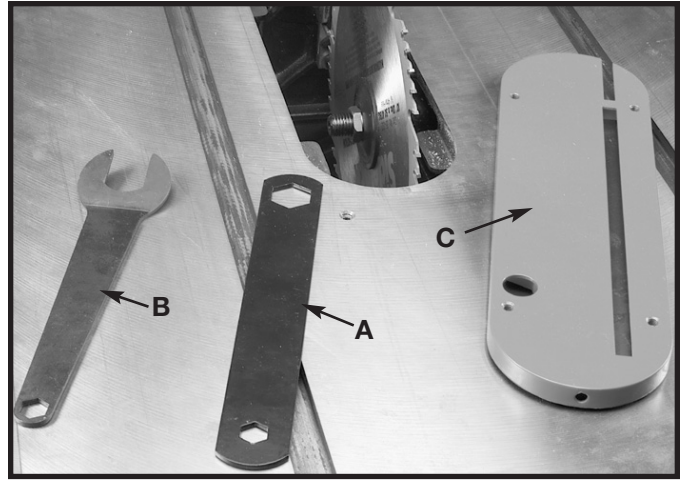
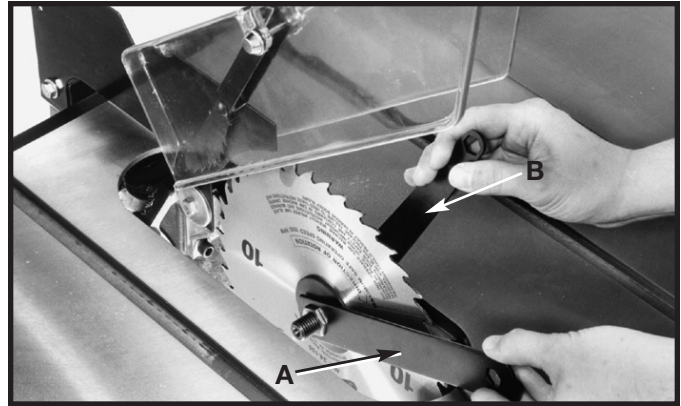

Fig. 50
Fig. 50A
1. **NOTE:** Two 7/8" wrenches are supplied with the saw for changing the blade: a box end wrench (A) Fig. 50 & 50A, and open end wrench (B) Fig. 50 & 50A. Use only 10" saw blades rated for 3000 RPM or higher with 5/8" arbor holes.
2. Remove table insert (C) Fig. 50, and raise saw blade to its maximum height.
3. Place the open end wrench (B) Fig. 50 on the flats of the saw arbor to keep the arbor from turning, and use wrench (A), to turn the arbor nut toward the front of the saw. Remove arbor nut, blade flange, and saw blade.
4. Assemble the new blade, making certain the teeth point down at the front of the saw table, and assemble outside blade flange and arbor nut. With wrench (B) Fig. 50, on the flats of the arbor to keep it from turning, **tighten arbor nut** by turning wrench (A) Fig. 50A toward the rear of the saw.